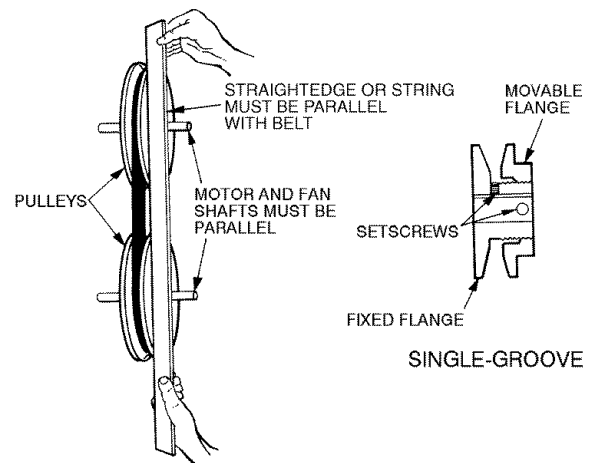

Fig. 41 — Indoor-Fan Pulley Adjustment
3. Loosen the movable pulley flange setscrew (see Fig. 41).
To align the fan and motor pulleys (see Fig. 41):